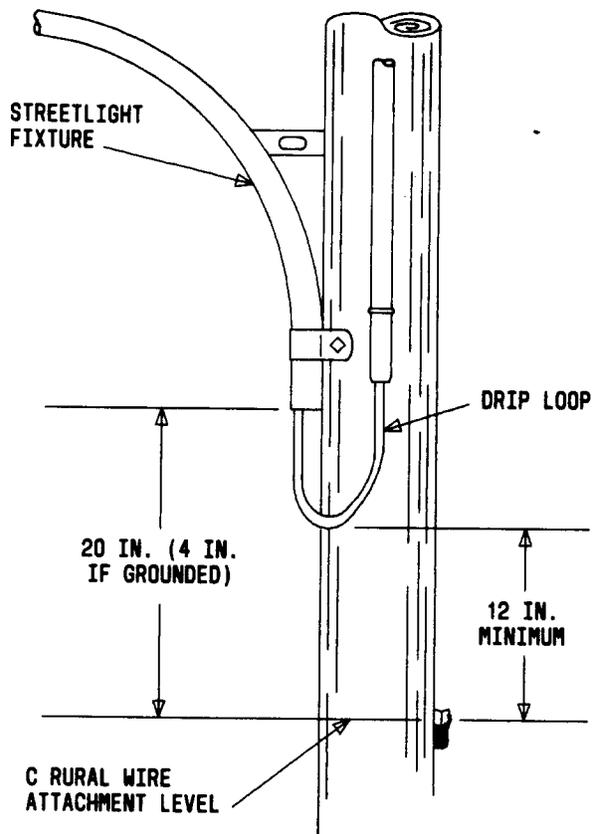

Fig. 15—Clearance From Streetlight Fixture Drip Loop Above C Rural Wire
4.02 Clearances from streetlights, traffic lights, trolley wires and associated fixtures, brackets, and wiring are shown in Table E. Figures 15, 16, and 17 are referenced from Table E.
STREETLIGHT FIXTURES AND ASSOCIATED WIRING (FIG. 15 AND 16)